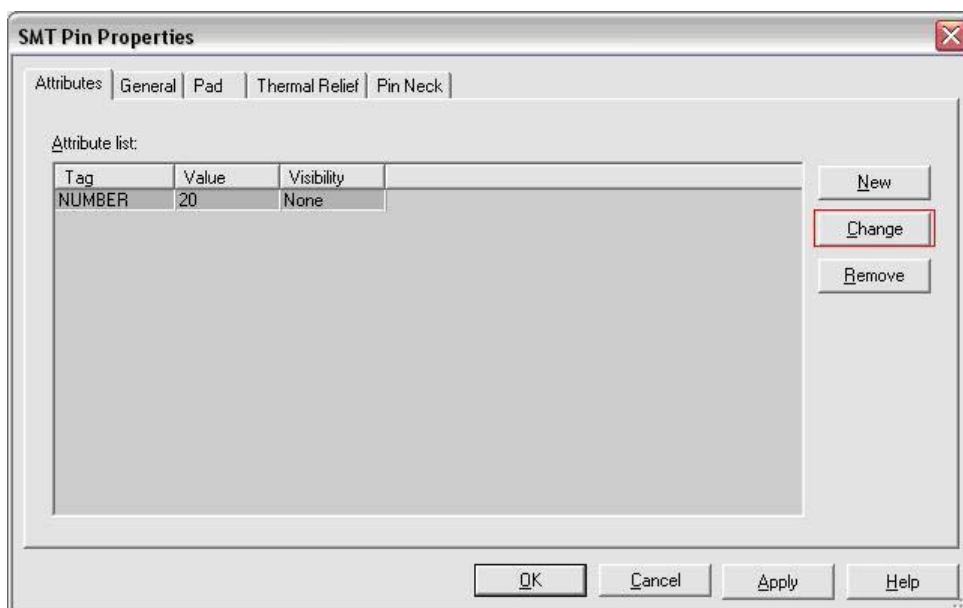

Figure 12 - SMT Pin Properties
- c.) The attribute list (Figure 12) displays the tag which stores the pin number (**NUMBER**), the pin value (**20**) and its visibility (**None**).
- d.) Select the **NUMBER** tag in the attribute list, which will activate the **Change** button (red box in Figure 12). Click the **Change** button.